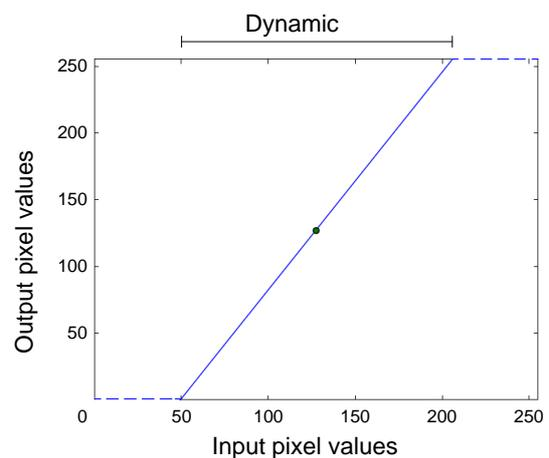

Fig. 41: Contrast = 0.3, Brightness = 0, Linear Contrast Mode
The higher the slope of the linear function, the more output pixel values will be set to completely black (0) or completely white (maximum pixel value). In the example shown in Figure 41, input values from 0 to approximately 50 are set to completely black, and input values from approximately 205 to 255 are set to completely white.